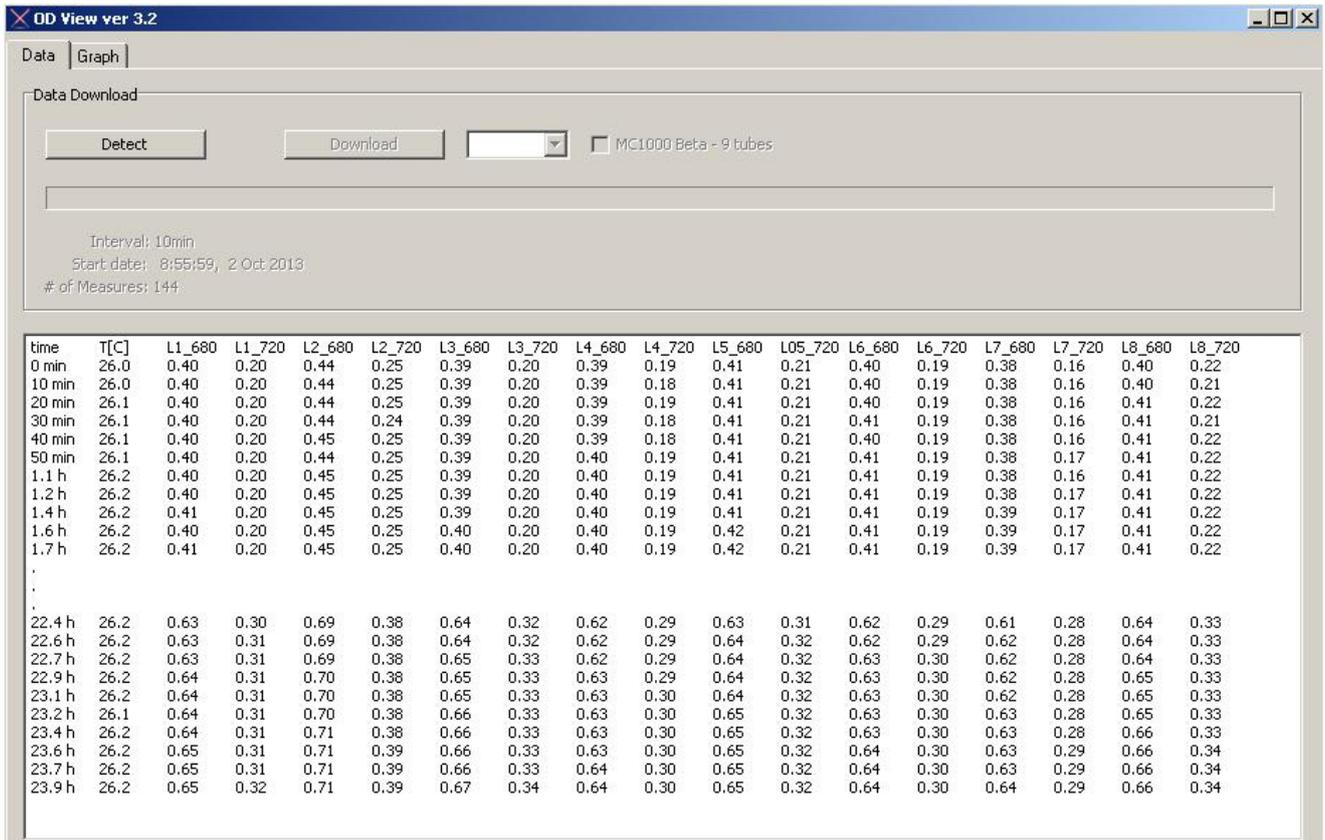

Fig. 25 OD and Temperature downloaded data window
4. Click **“Detect”** button for the software to connect with the Multi-Cultivator control unit. Once the connection has been established click **“Download”** button that appears. The stored data from the MC 1000-OD control unit will be downloaded and the following screen will appear as shown in Fig. 25.